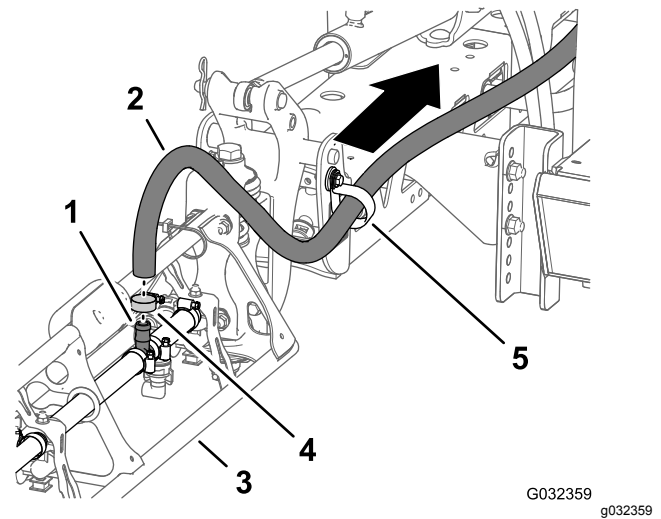

Figure 37
- At the outer-boom section, remove the hose clamp that secures the supply hose for the boom section to the barbed T-fitting (Figure 37).
- Remove the hose from the T-fitting (Figure 37).
- Remove the free end of the hose from the R-clamp (Figure 37).